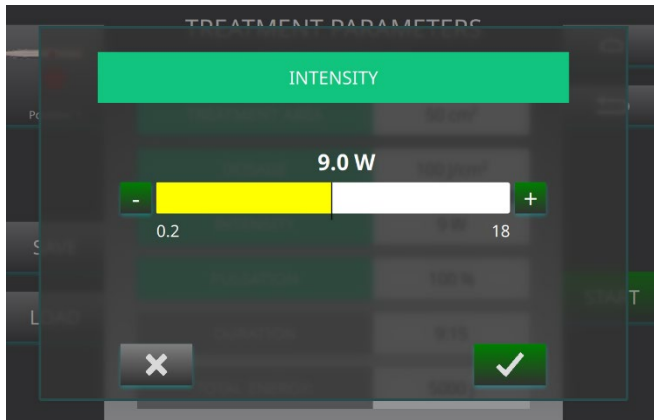

fig. 6
4. For the **INTENSITY** (W) parameter, increase or decrease the value using the + or - buttons or by scrolling the cursor to the right or left until the desired value is reached (Figure 6). It is possible to vary the INTENSITY parameter between 0.2W and 18W for CRYSTAL YAG and between 0.2W and 9W for CRYSTAL YAG SP.